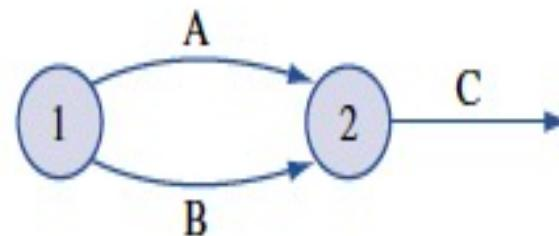

Figure 5.4 Violation of Rule 5
- For example, suppose activities A and B are both predecessors of activity C and can begin at the same time. In the absence of rule 5, we could represent this by Figure 5.4.
Suppose activities A and B are both predecessors of activity C and can begin at the same time. In the absence of rule 5, we could represent this by Figure 5.4.
However, because nodes 1 and 2 are connected by more than one arc, Figure 5.4 violates rule 5.